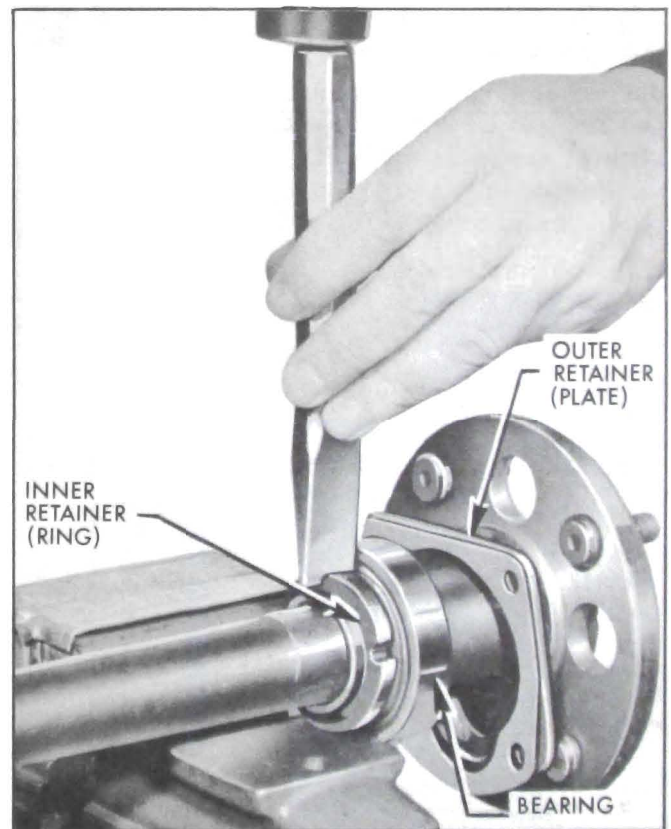

Figure 6-5—Removing Axle Shaft Bearing Retainer
1. Nick bearing retainer in 3 or 4 places with a chisel deep enough to spread ring. Retainer will then slip off. See Figure 6-5.